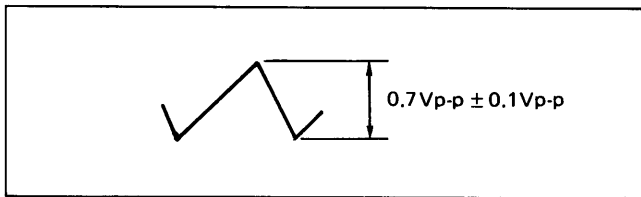

Fig. 26
- 4) Adjust H. Sawtooth Adj. VR (R7030) to achieve the waveform as shown in Fig. 26.